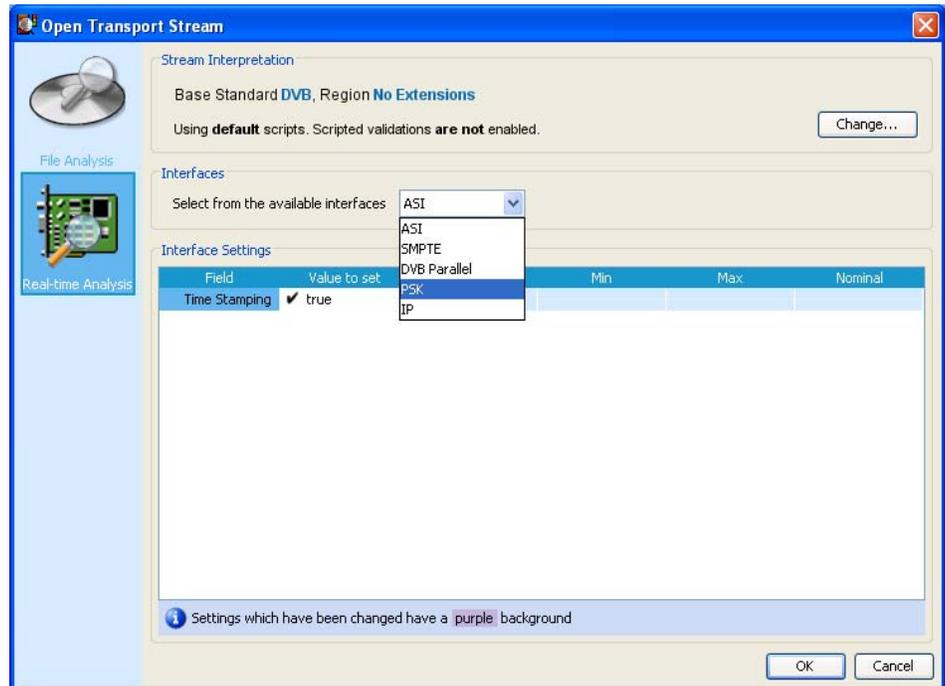

Figure 2–13: RF interface selection
49. In the Interfaces drop-down box, select the RF interface, for example, as shown in Figure 2–13, PSK.
51. Note that the Interface Settings are displayed. See Figure 2–14. If you want to proceed with analysis, you may need to change the settings to suit your local setup.